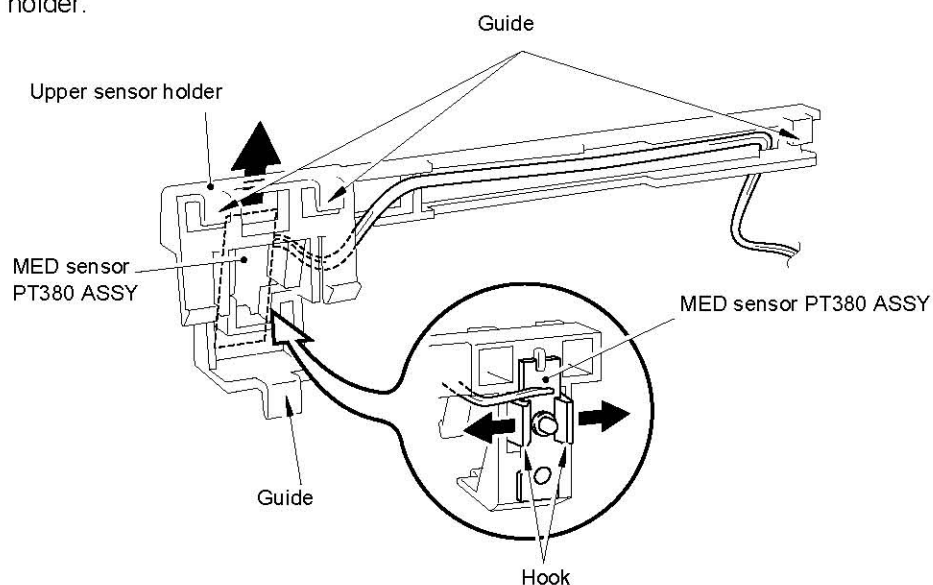

Fig. 4.82
- (1) Position the MED sensor PT380 ASSY on the Upper sensor holder and secure it with the hook.
- (2) Run the harness and put it in the groove.
- (3) Slide and press the Upper sensor holder by putting it into the three hooks so that it is properly located onto the hooks. Hook the Upper sensor holder onto the Upper nip plate unit by matching the four guides (Refer to fig. 4.82) and then press it downwards.
- (4) Put the harness into the hole of the Main frame ASSY and attach the core with a cable tie.